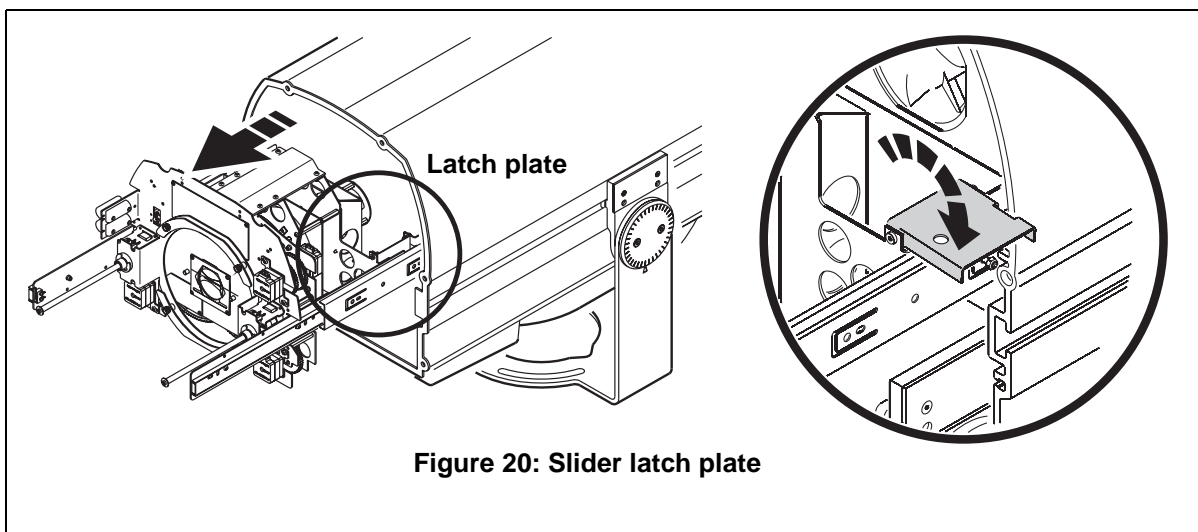

Figure 20: Slider latch plate
5. See Figure 20. Flip open the latch plate to lock the module in the out position.